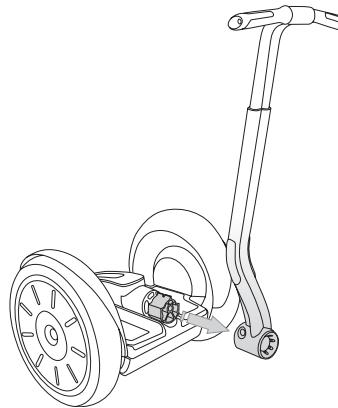

Figure 30. Remove the Handlebar/LeanSteer Frame from the Pivot Base Assembly
4. Slide the LeanSteer Frame away from the Pivot Base Assembly as shown in **Figure 30**. Sliding the LeanSteer Frame away from the Pivot Base Assembly should require minimal force.